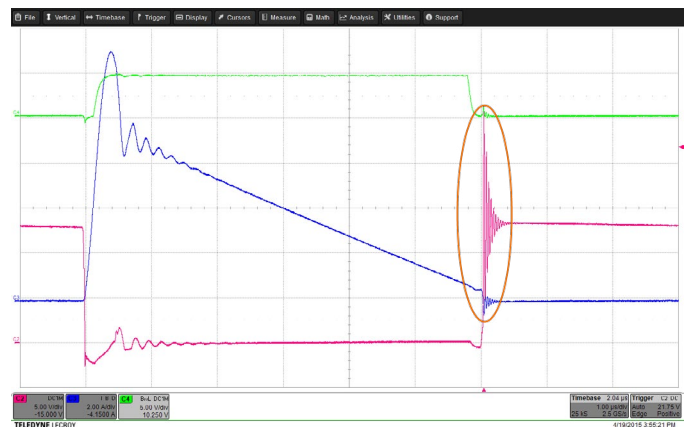

Figure 25. Measure the Frequency of Oscillation of the SR FET VDS During Turn-Off Ringing (encircled) to Solve for SR FET Snubber Values.
2. Using a scope probe, measure the frequency of the SR Drain-Source oscillation during turn-off ( $f_{RING}$ ). See Figure 25.